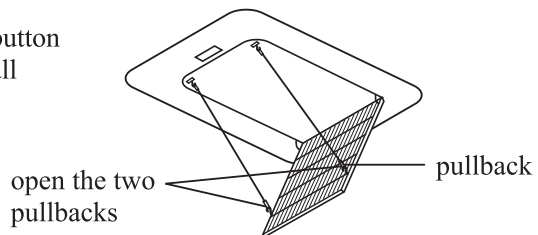

Fig. 5
2. Open the two pullbacks for suspending the air inlet grid(as shown in Fig. 5).